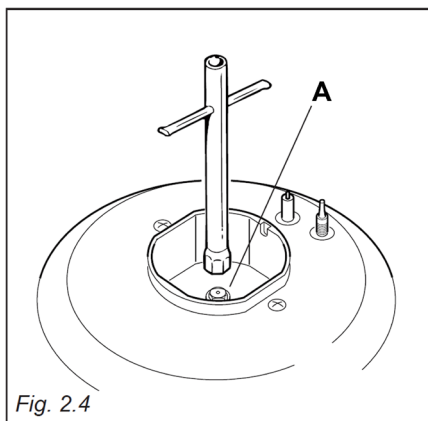

Fig. 2.4
- Replace “A” nozzles (fig. 2.4 - 2.5) with the correct ones for the gas to be used, using a fixed key.